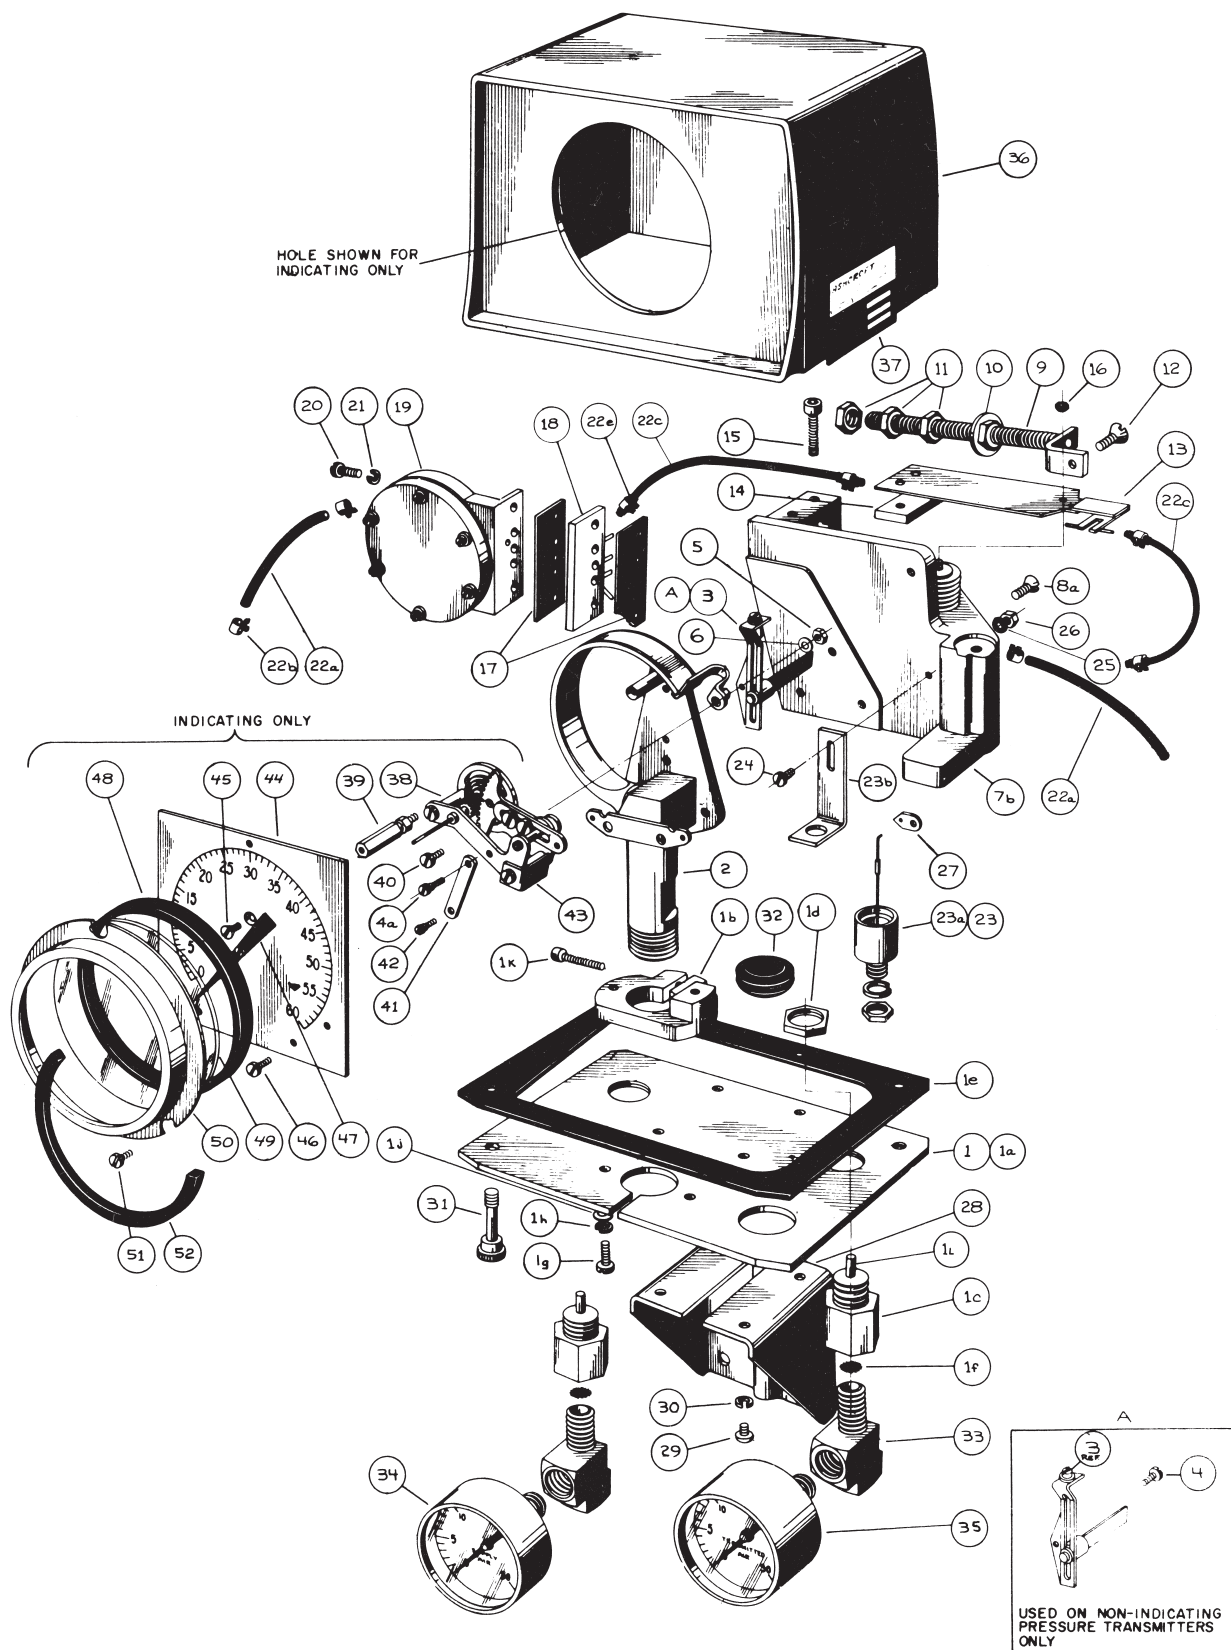

Figure 8. Indicating and Non-Indicating Pressure Transmitter, Series 45-C4080 and Series 45-C4480
The assemblies and parts illustrated in Figures 8 and 9 and listed in the Parts List are available for replacement purposes. When a detail part not shown as a separate item requires replacement, replace the assembly of which it is a part.
To replace the input system assembly, refer to the applicable illustration (Fig. 8 and 9) and proceed as follows:
- d. Loosen two captive screws (31), Fig. 8) and remove cover (36), removing ring/case gasket (52) from ring (50) (on indicating pressure transmitters).
- e. With supply air turned off, move span adjusting disc (10) on nut assembly (9) to approximate center of adjustment range.
- f. Turn adjusting screw on zero adjusting assembly (3) until bottom edge of vane is approximately flush with top surface of nozzle plate of flexure assembly (13). Check to be certain that vane is centered between nozzles. If not, bend vane slightly to center it.
- g. Remove ring (50), pointer (47), and dial (44).
- i. Install dial (44), position pointer (47), and install ring (50).
- j. Turn on supply pressure and turn adjusting screw on zero adjusting assembly (3) until receiver gauge indicates 3 psig.
- n. Move span adjusting disc (10) on nut assembly (9) toward bellows if receiver gauge indicates less than full scale indication desired (15 or 27 psig). Move range adjusting disc away from bellows if receiver gauge indicates above full scale indication desired.